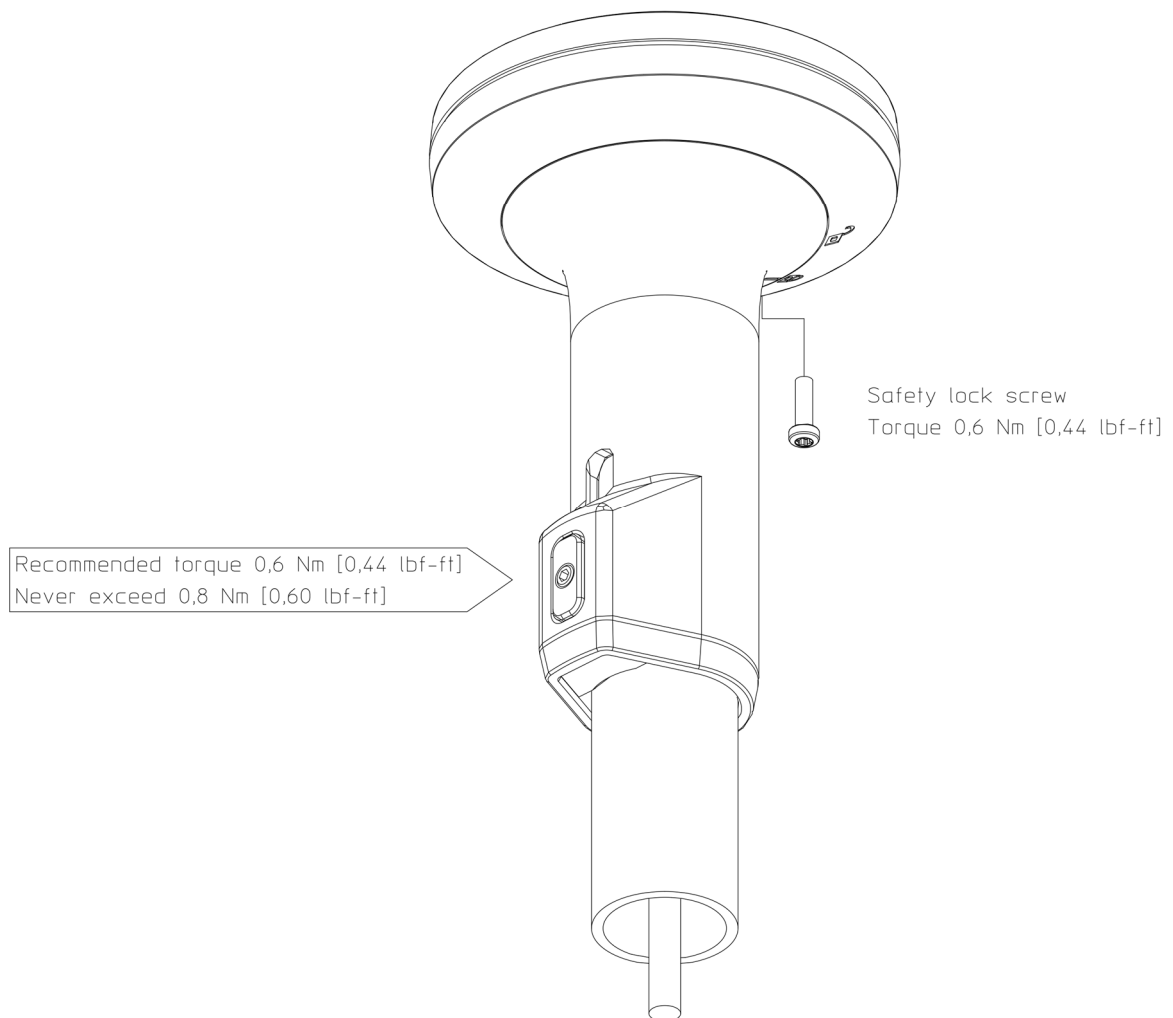

FIGURE 15: POLE MOUNT INSTALLATION STEP 5 (SECURING SCREWS)
Step 5: Fasten the pole mount by securing the two screws as illustrated in Figure 15 (pinol and safety lock screw).